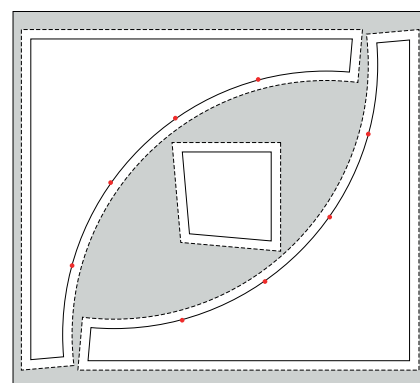

fig 3
- Cut each of the 10" x 11" pieces into two B templates and two G templates (see fig 3).